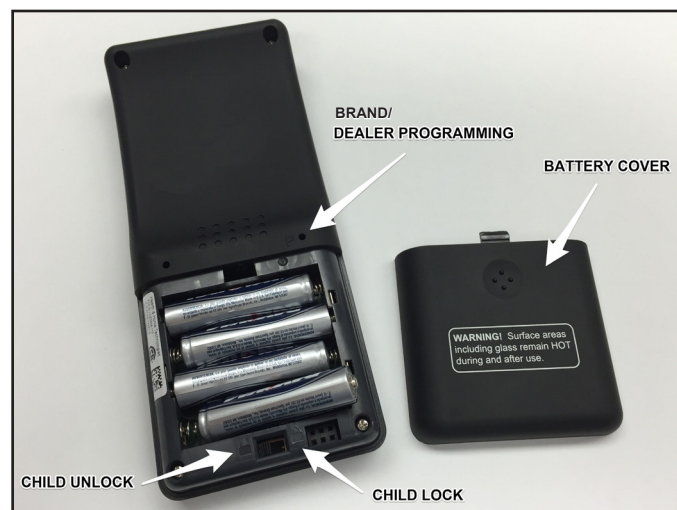

Figure 1. Install Batteries & Child Safety
2. Remove the battery cover from the back of the IFT-RC400 and install the four AAA batteries in the proper orientation marked in the battery cavity. Ensure the child lock switch adjacent to the battery cavity is in the UNLOCKED position. See Figure 1.